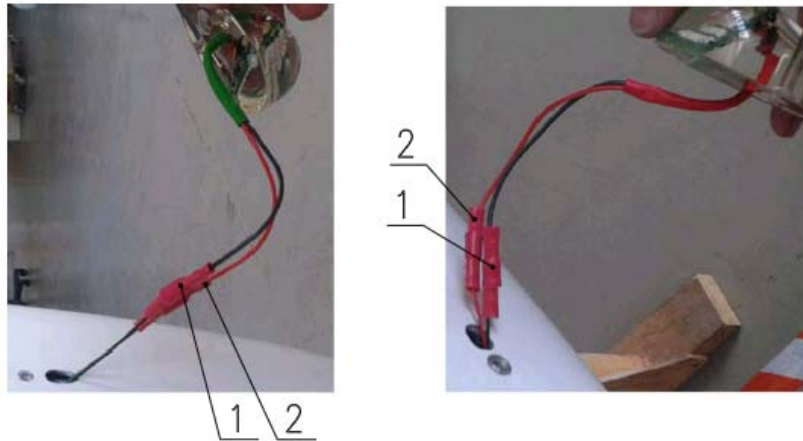

Fig. 33-40-6
2	Disconnect socket item 1 and plug item 2 (Fig. 33-40-6).
1	Connect socket item 1 and plug item 2 as shown on Fig. 33-40-6.